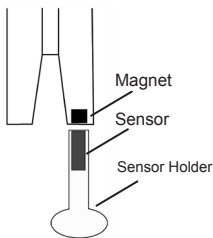

Fig 6
Refer to the Overview Notes on page 4 before starting installation. It is not possible to set out a single installation method for horizontal windlasses. The sensor may be fitted inside the windlass or you may need a sensor holder (Part #9070). See Fig 6 below. Often the sensor and magnet can only be fitted by the windlass manufacturer.
**Sensor Position:** The AutoAnchor sensor may be fitted using a sensor holder fixed to the deck to sit under the chainwheel (See Fig 6). The AutoAnchor sensor holder (#9070) is not included in the standard kit. Check with your supplier if you need this. The AA black sensor and the reed switch sensor must be fitted directly in line with the magnet in the chainwheel. The AA grey sensor may be fitted up to 20mm out of alignment. The gap between the sensor and magnet must be as per the table below.